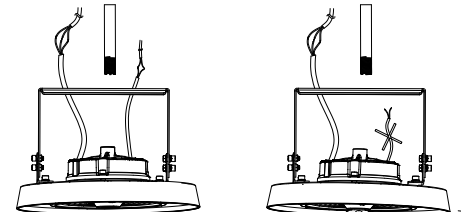

FIGURE 9
2. Insert 1/2" NPT stem into the bracket hole. (Figure 9)